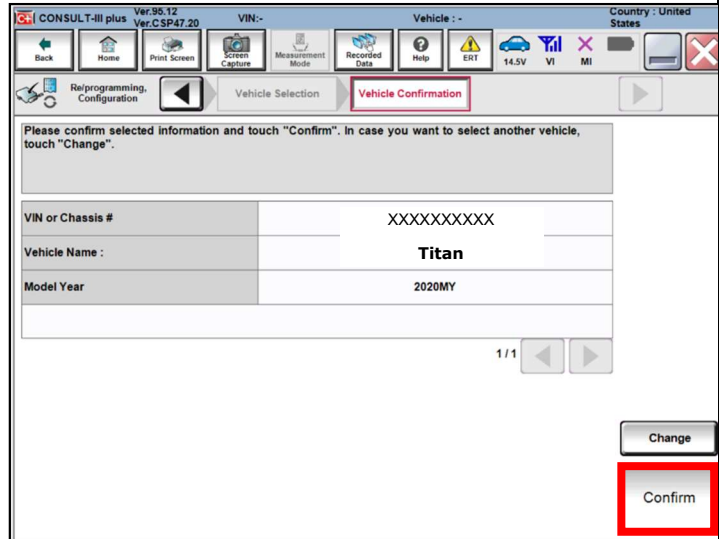

Figure 9
10. Confirm VIN, Model, and year are correct. (Figure 9)